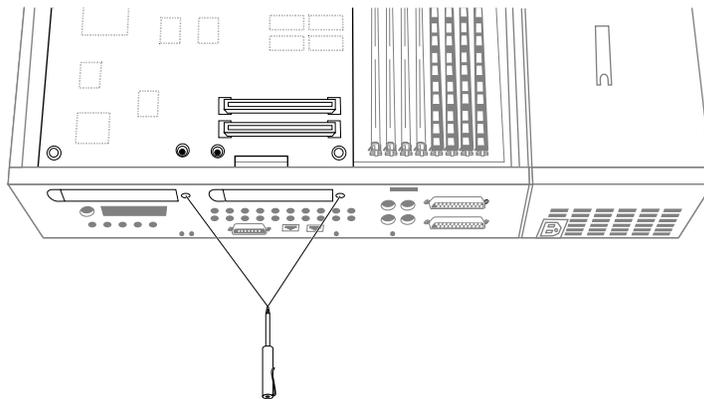

Figure 1-5 Removing the face plates from the I/O slots
- Figure 1-5** Removing the face plates from the I/O slots 8
3. Using the Phillips screwdriver provided, remove one screw from each of the two face plates covering the I/O slots for GIO option boards on the rear of the workstation, as shown in Figure 1-5. Save the face plates and screws in the event you remove and do not replace the board in the future.